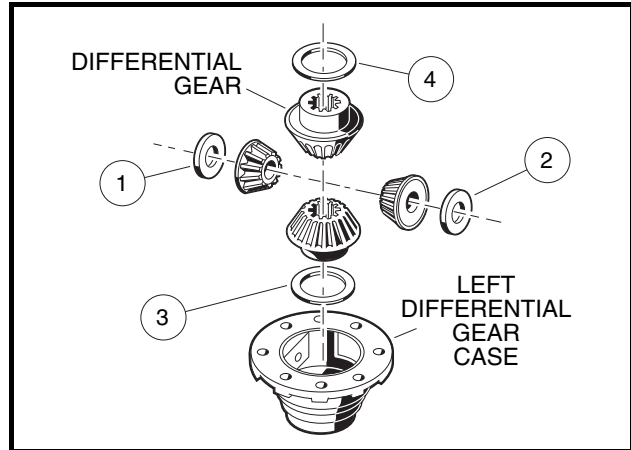

Figure 17-16 Left Differential
- 8.5. Remove the idler gears and thrust plates (1 and 2) (**Figure 17-16, Page 17-9**).